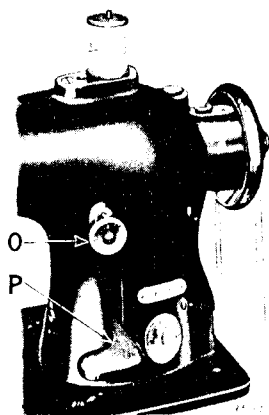

Fig. 20. Lever for Reversing Direction of Feed,
The length of stitch is regulated by the thumb screw (O, Fig. 20) on the front of the upright part of the arm. This thumb
screw is marked with numbers denoting from one to five millimeters, and when the number or fraction is directly opposite the lock pin, the machine will make stitches of corresponding length. Move the feed reversing lever (P, Fig. 20) to a central position in the slot. To lengthen the stitch, turn the thumb screw (O) to the left. To shorten the stitch, turn this thumb screw to the right. When the desired length of stitch has been obtained, move the feed reversing lever (P) back to its original position.
The machine can be made to feed the goods forward or backward, as desired, by moving the lever (P, Fig. 20) in the slot at the front of the upright part of the arm.